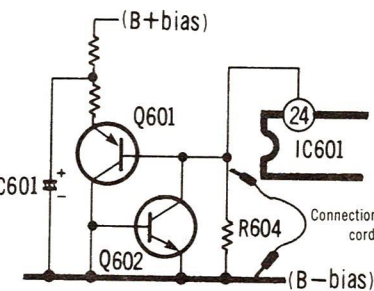
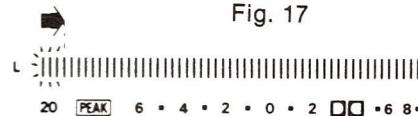

Fig. 17
Fig. 18
Fluorescent meter [TAPE 2] Condition: - Record mode - Input level controls ... MAX Equipment: - VTVM - AF oscillator - ATT - Resistor (600 Ω)	1. Test equipment connection is shown in fig. 17. 2. Short R604 by connecting a connection cord across it, as shown in fig. 17, to stop oscillation of the astable multivibrator consisting of Q601 and Q602. 3. Supply 1 kHz signal (-24 dB) to the LINE IN then press the record button. 4. Adjust the ATT so that the output level at LINE OUT becomes 0.4 V (The input level at this condition is termed the standard input level). 5. Adjustment at "-20 dB": A. Adjust the ATT so that the input level is -20 dB below standard recording level. B. Adjust VR601 so that the -20 dB segment lights up in the -20 $\pm$ 0.8 dB range (L-CH only) (See fig. 18). 6. Adjustment at "0 dB": A. Adjust the ATT so that the output level at LINE OUT becomes 0.4 V. (The input level at this condition is termed the standard input level.) B. Adjust VR602 so that the +1 dB segment lights up in the 0 $\pm$ 0.2 dB range of the standard input level (See fig. 19). 7. Repeat twice between steps (5) and (6) above 8. Adjust ATT and check that all segments lights up when an input signal level is increased to 10 dB higher than the standard input level (See fig. 20). Fig. 17 Fig. 18 Fig. 19
- Test equipment connection is shown in fig. 17.
- Short R604 by connecting a connection cord across it, as shown in fig. 17, to stop oscillation of the astable multivibrator consisting of Q601 and Q602.
B. Adjust VR601 so that the -20 dB segment lights up in the -20 $\pm$ 0.8 dB range (L-CH only) (See fig. 18).